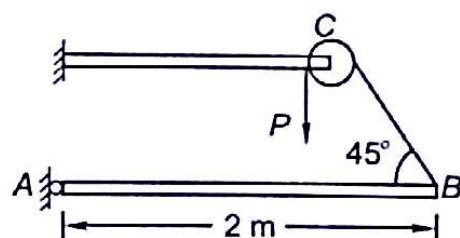

Fig. 9.38
9.7 A beam AB , 2 m long, uniform in cross-section is held in equilibrium by the application of a force P as shown in Fig. 9.38. The self weight of bar is 100 N. What is the magnitude of P ?